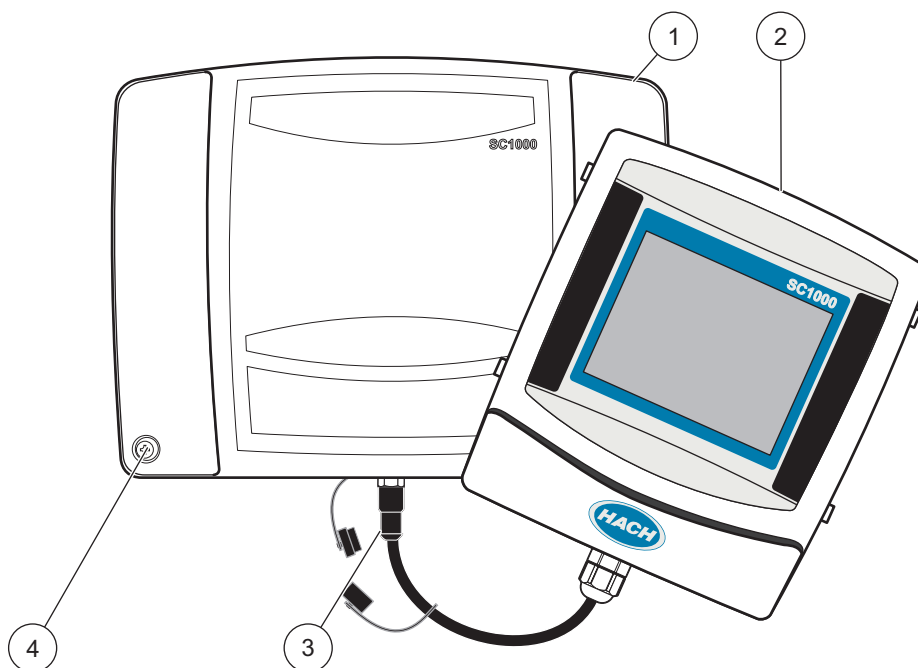

Figure 5 Remove display module and probe module cover
Remove the display module before performing any wiring tasks (Figure 5).
2. Remove the display module from the probe module (Figure 5).